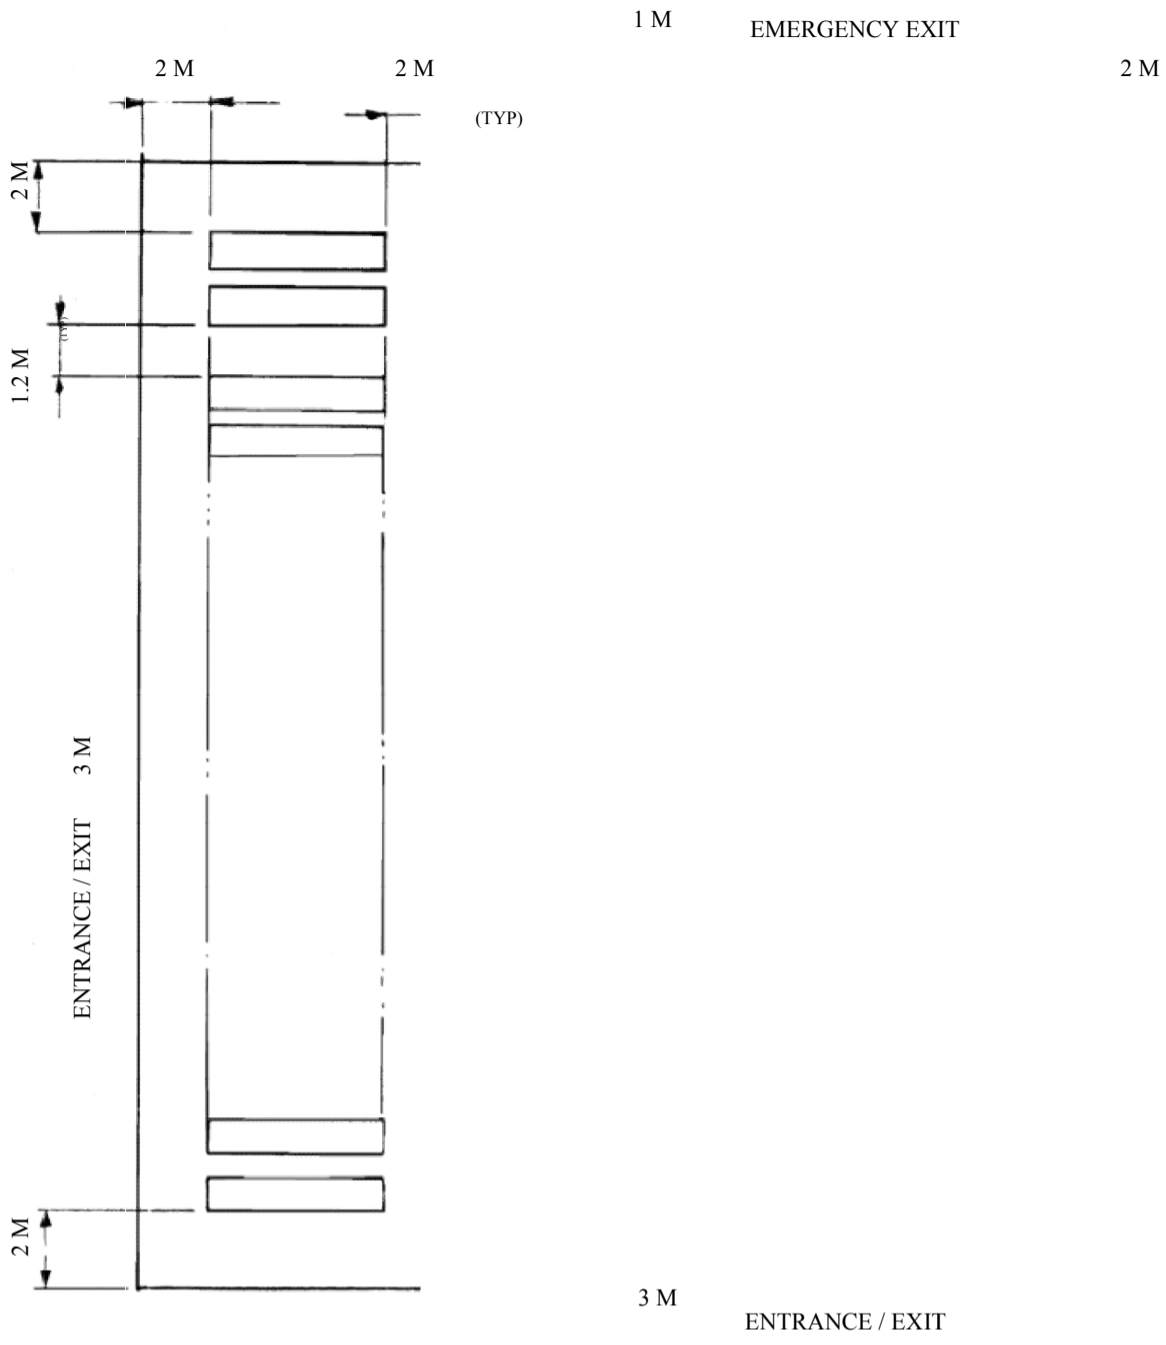

Fig. 23 LAY-OUT OF STORE
- 1) The bulk carrying cases have to be arranged as shown in Fig. 23 (LAY-OUT OF STORE). They can be kept back to back as shown in Fig. 23.